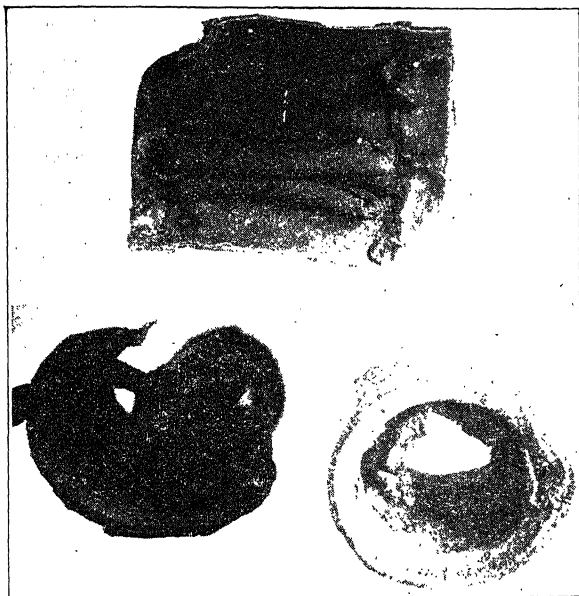

Fig. 24. Radiator Hose in This Condition Will Cause Overheating
*Radiator-Hose Troubles.* Fig. 24 illustrates the most ordinary type of radiator-hose failure. The two hose sections shown at the lower part of the illustration have been photographed from the end. It will be noted that the one at the left has had the inner lining curled until the passage is almost entirely clogged. The one at the lower right is not in such an advanced stage of deterioration. The view at the top is of the same hose as the one at the lower right. When
The effects of anti-freeze on hoses may result in a condition similar to that shown in Fig. 24. Most anti-freezes are not detrimental to hose connections; however, any of the anti-freezes will have a certain effect in hastening deterioration. Oil within the radiator will cause the hose lining to become softened and rot, which will result in the curling.